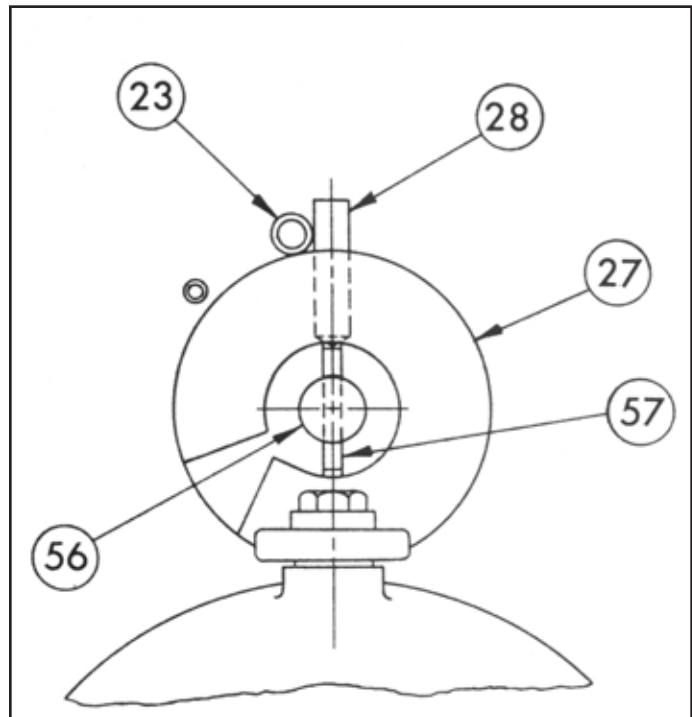

Figure 6.
Place shaft (56) through cam (27) engaging pin (57) in cam slot. Insert shaft and cam through bushing (21) in magnet plate from side opposite the coils. The stop pin (28) in the cam should be as shown in Figure 6. Place return spring over shaft on side with coils on, hooking spring (29) over pin (22). Holding shaft and cam in position, rotate the tang end of return spring counter clockwise  $1/4$  turn, engaging tang into slot on shaft end. Install washer (30) and nut (31). Tighten nut (31) to take up end play only. There should be spring pressure holding the stop pin the cam against the stop pin in the magnet plate.